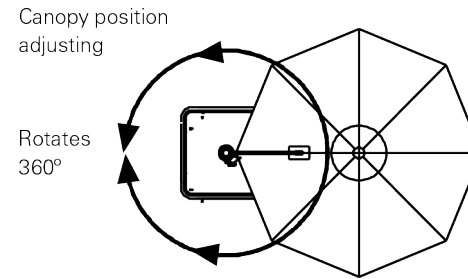

Fig. 7
Step 3. The umbrella has a unique design that moves the pole out of your way and off to the side. The multiple position canopy can rotate 360° around the axis of the main pole to offer the shade on your expected area around the umbrella as shown in Fig. 7.